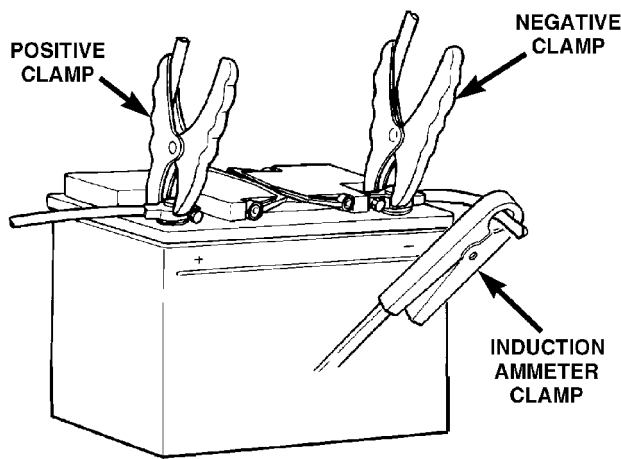

Fig. 7 Volt-Ampere Tester Connections
(1) Connect a volt-ampere tester to the battery terminals (Fig. 7). Refer to the operating instructions provided with the tester being used.
(2) To disable the ignition and fuel systems, disconnect the Automatic Shutdown Relay (ASD). The ASD relay is located in the Power Distribution Center (PDC). Refer to the PDC cover for proper relay location. The 2.5L Diesel Engine, to disable the engine from starting, disconnect wire connector from the Fuel Solenoid.